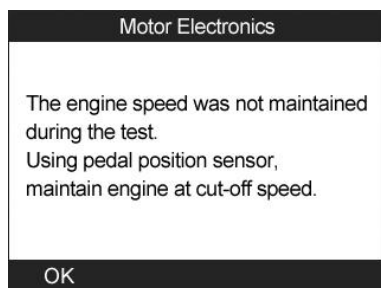

Figure 11.45
- If the engine is not running at cut-off speed, the tool will display a warning message. (Figure 11.45) Select **OK** to repeat the test.